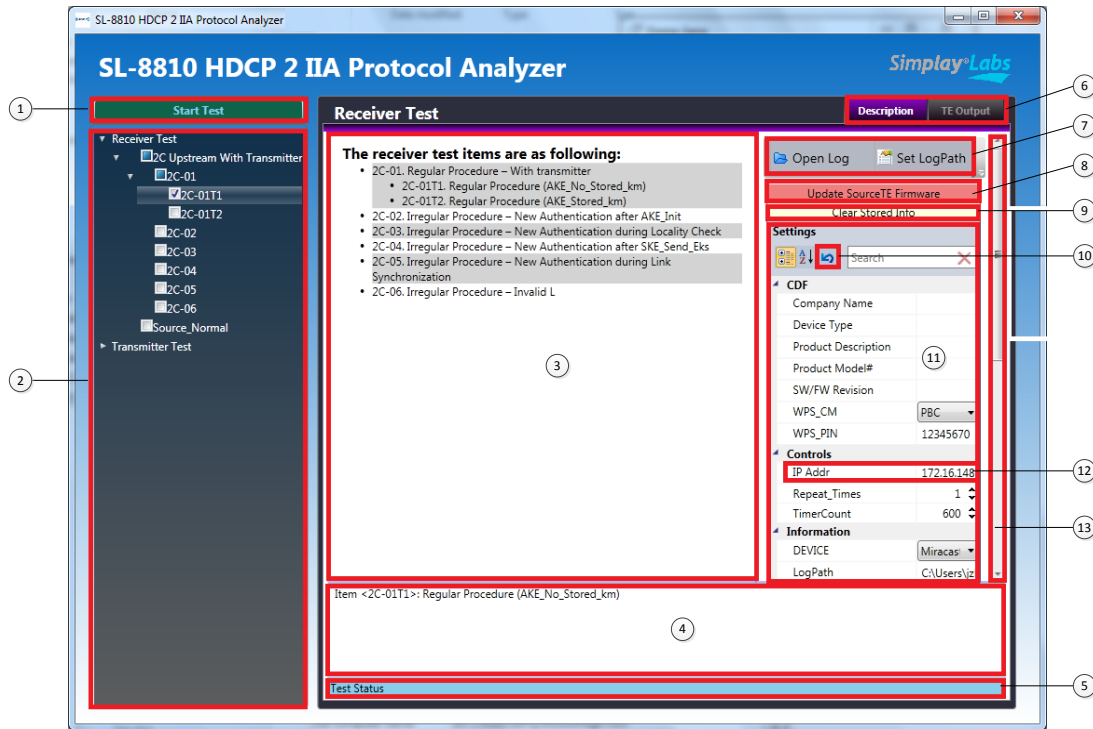
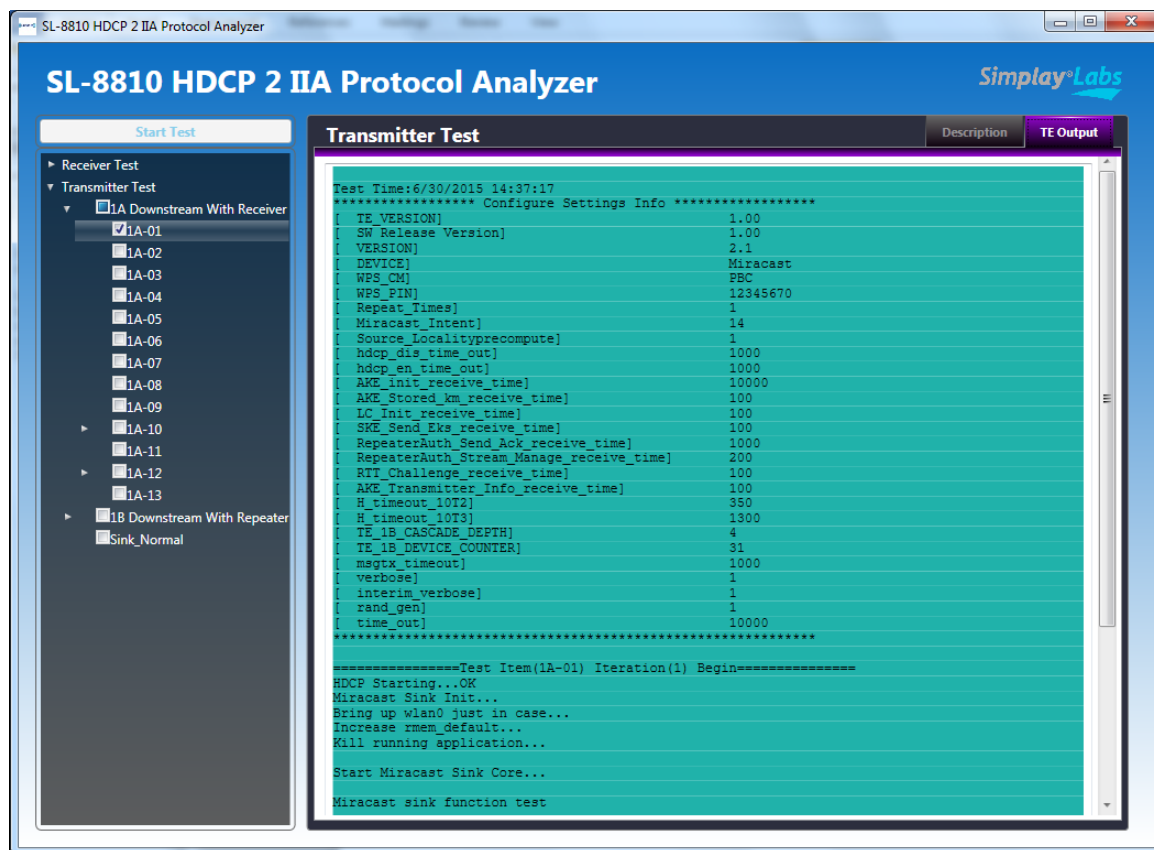

Figure 1.8. HDCP 2 IIA Protocol Analyzer GUI Main Window
Figure 1.10. TE Output Tab in the Main Window of the SL-8810 HDCP 2 IIA Protocol Analyzer GUI
3. Once you expand any of the test menus or test IDs, you can get the GUI main window as shown in Figure 1.8.
7. Select one or all the test items that you intend to run. Click the Start Test button (see area 1 of Figure 1.8).
8. Click TE Output button (see area 6 of Figure 1.8). You can get the log information. Following is an example of sink 1A-01 log information (Figure 1.10).